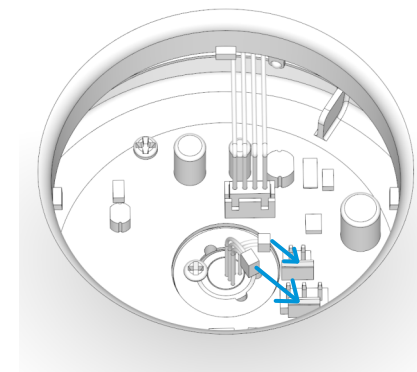

Fig. 2.3
2.3 Insert the 2P terminal and the 3P terminal into the corresponding terminal interfaces on the circuit board as shown in Fig.2.3.